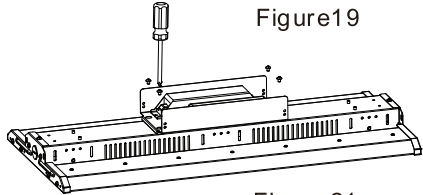
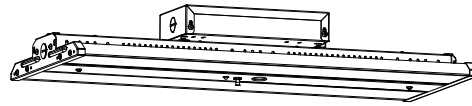

Figure21
Figure22
Step2. Open the cover of the backup driver box, install the backup driver box at the corresponding position on the back of the fixture (Figure 21), connect the wires correspondingly according to the marking instructions on the wire, mount the buttons and indicators of backup driver on the front cover of the fixture (Figure 22), then fix the cover to the fixture.